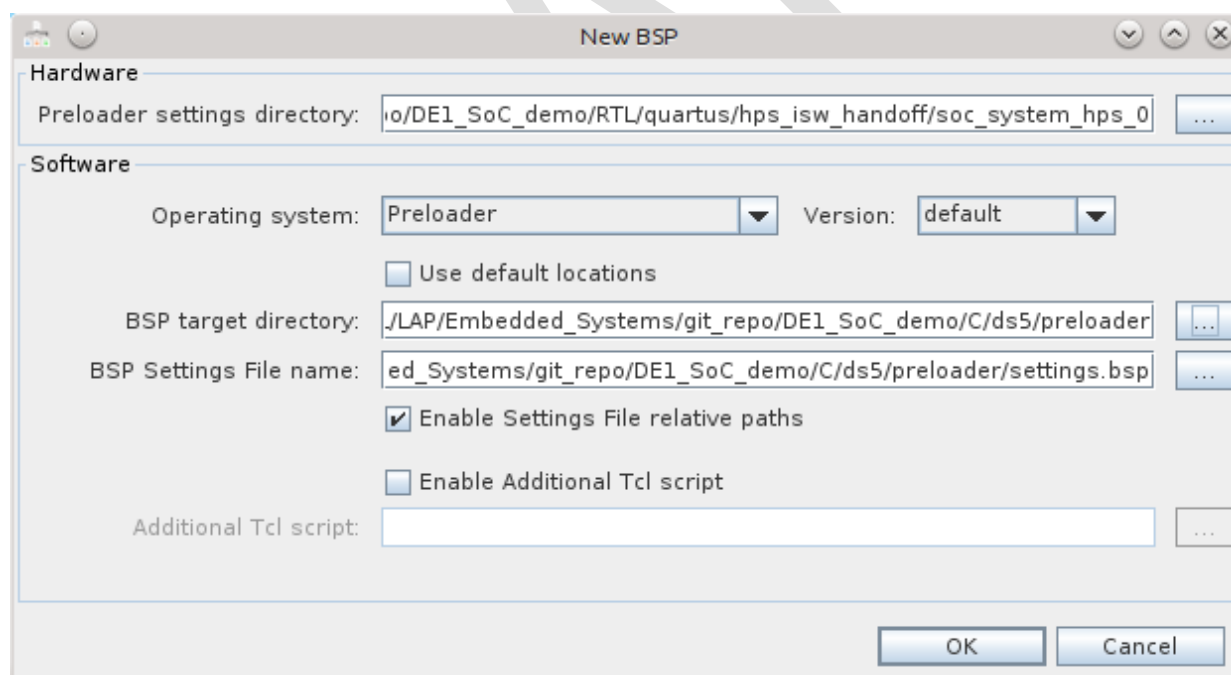

Figure 8-22. New BSP Dialog
- b. Disable the “Use default locations” checkbox and under the “BSP target directory”, select the “DE1_SoC_demo/C/ds5/preloader” directory. You should have something similar to Figure 8-22.